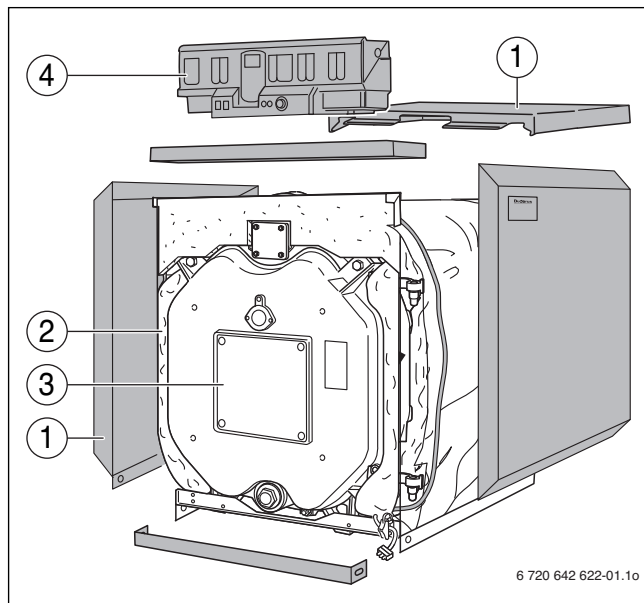

Fig. 1 Oil/gas fired boiler Logano G315
- Boiler block (→ Fig. 1, [3])
- Boiler shell with boiler jacket (→ Fig. 1, [1]) and 3" thermal insulation (→ Fig. 1, [2])
- Control panel (→ Fig. 1, [4])